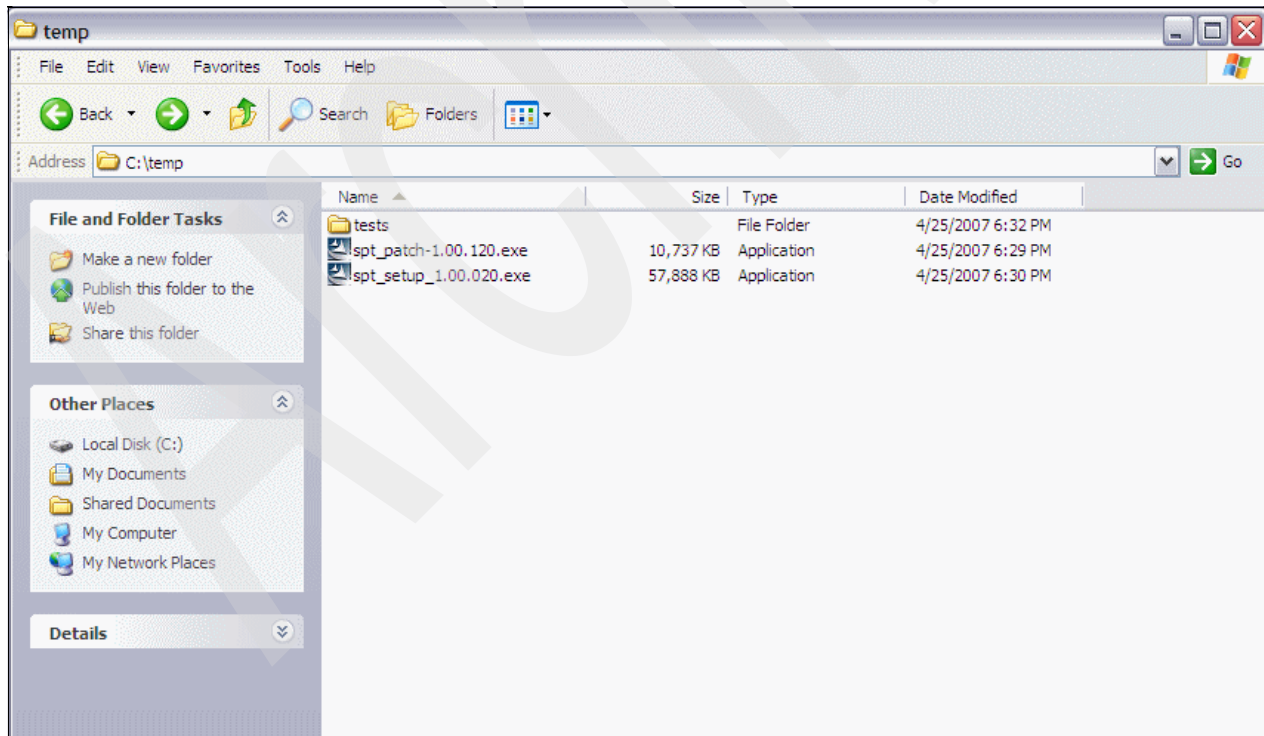

Figure A-6 The downloaded files
1. Go back to your download directory (see Figure A-6 on page 193), temp in our example, and double-click the patch file, **spt_patch_xxxx.exe**.